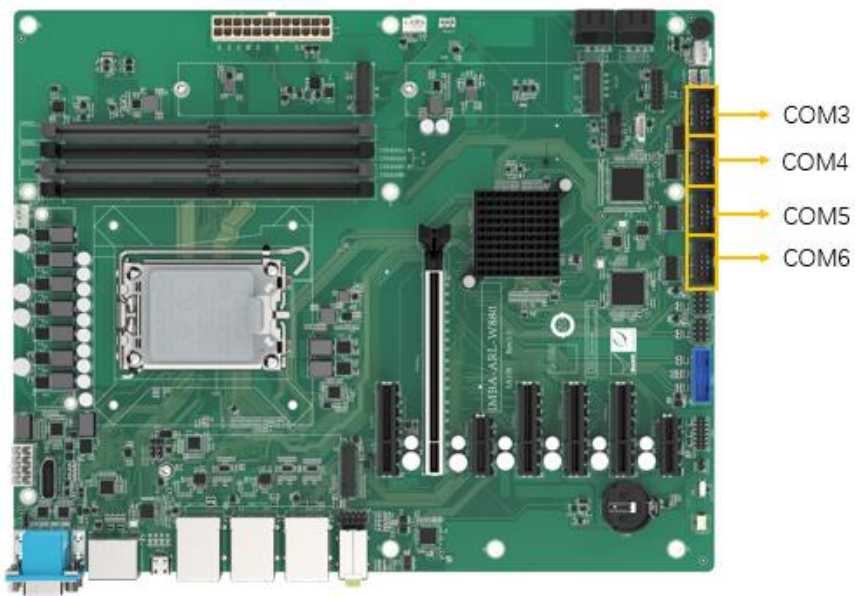

Figure 3-22: RS-232 Connector Location
**CN Location:** See Figure 3-22